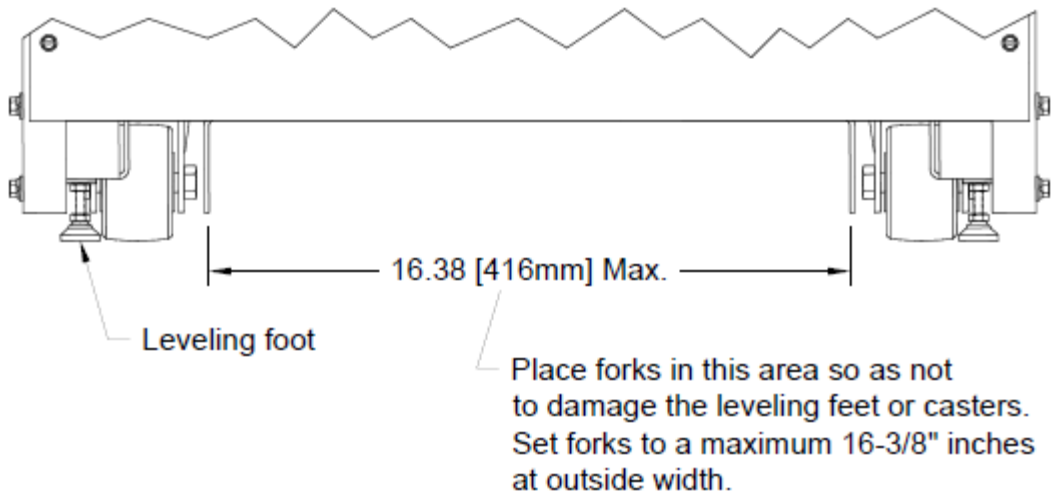
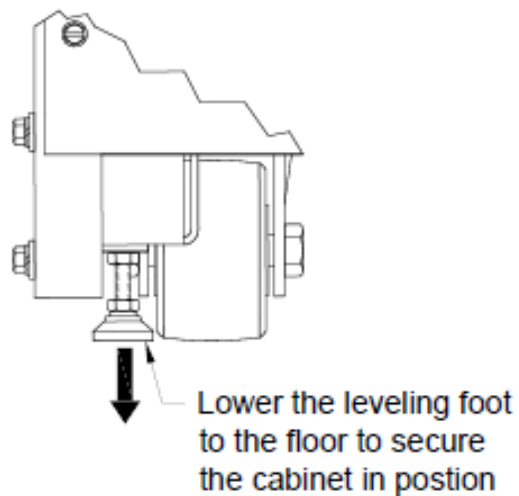
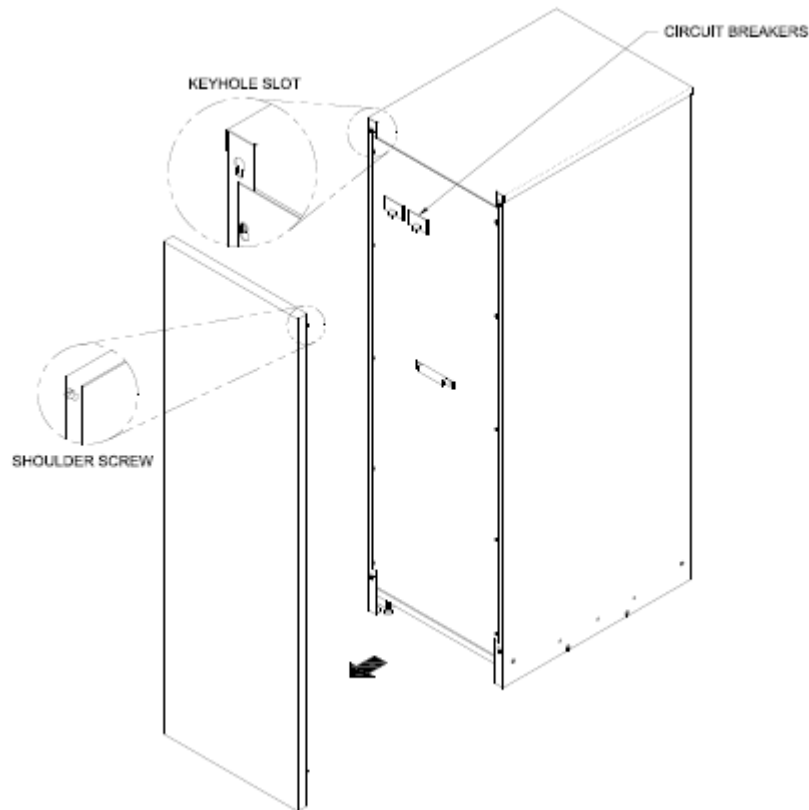

Figure 4 - Lifting Fork Area
Figure 5 – Leveling Foot Being Adjusted Down To Floor
Figure 6 - Removing the UPS Front Panel
6. Remove the front cover (see **Figure 6**) before inserting the lifting forks.
7. Ensure that the four (4) leveling feet are raised so that they will not touch the floor when the cabinet is placed on the floor.
8. Lift the cabinet with a forklift from the rear of the unit, one to two inches (1"-2" [2.5-5cm]) above the pallet (see **Figure 4**).
Once the cabinet has been rolled into position, remove the front panel to access the front leveling feet by pulling the panel outward at the bottom of the unit until it unsnaps and then lift up and off the cabinet (see **Figure 6**). Adjust the leveling feet as shown in **Figure 5**.
Figure 5 of the Maintenance Bypass Switch User's Manual.